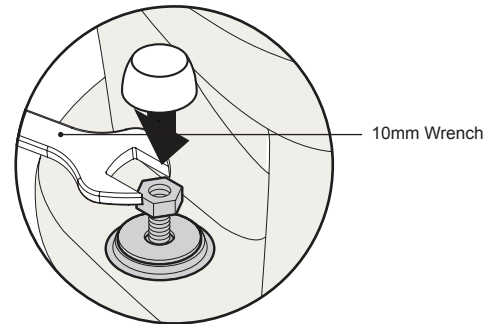

Figure 7
- 2 Once the bowl nut has been threaded onto the T-bolt, use a 10mm wrench to tighten the bowl nut (Figure 7).